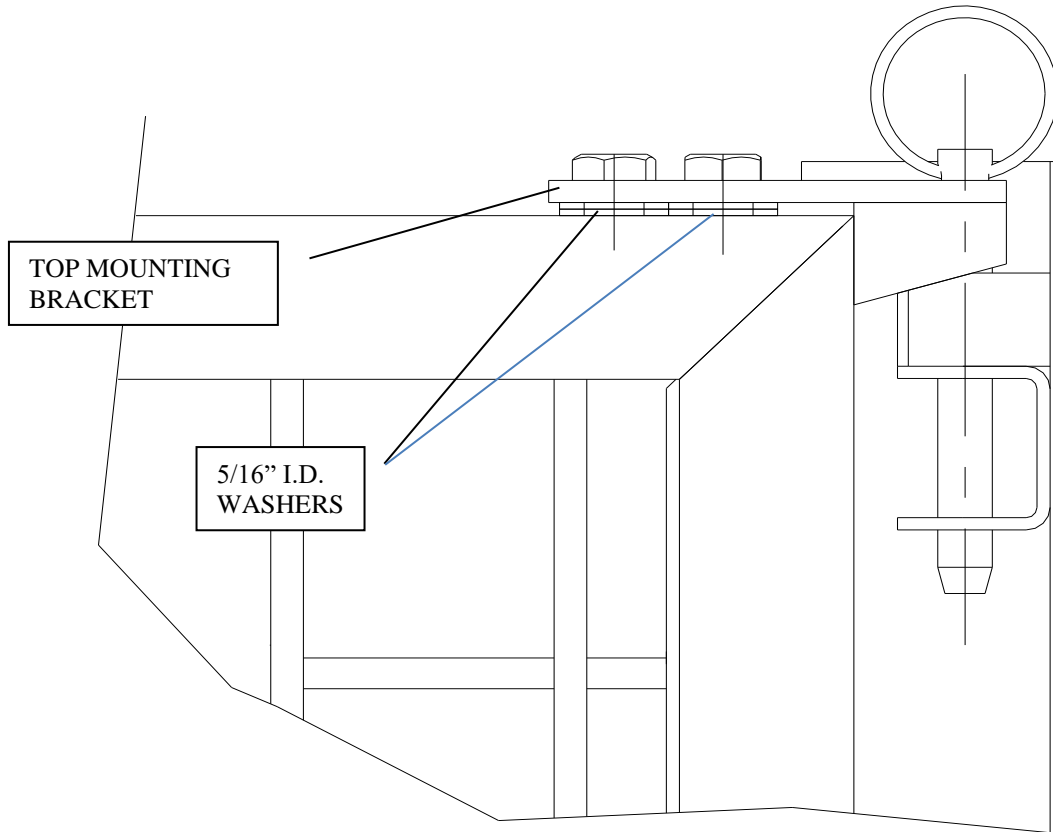

Figure 12
3. To lower the panel 5/16" I.D. washers can be inserted below the top mounting bracket on the division panel using a 7/16" wrench. See figure 12.